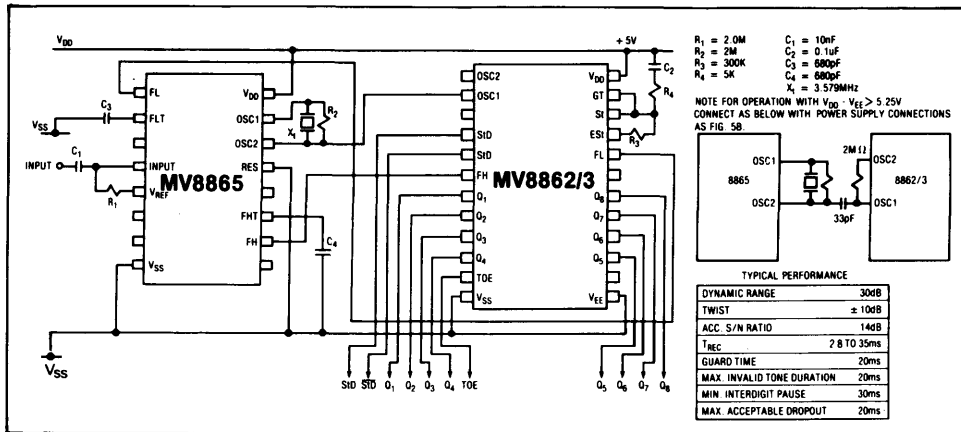

Fig.6 Single-ended input receiver using the MV8865 (5V operation)
When using the MV8862(3) with the MV8865 DTMF Filter it is only necessary to use the MV8865 crystal oscillator (see Fig.6). When using the higher supply voltage range the MV8865 OSC2 output should be capacitively coupled to the MV8862(3) OSC1 input as shown in Fig.6.